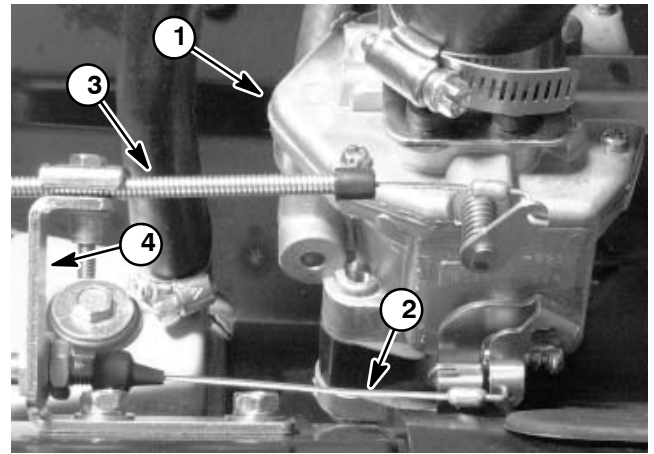

Figure 20
- A. Choke and throttle cables from the carburetor and cable bracket (Fig. 20).
- A. Choke and throttle cables to the carburetor and cable bracket (Fig. 20).